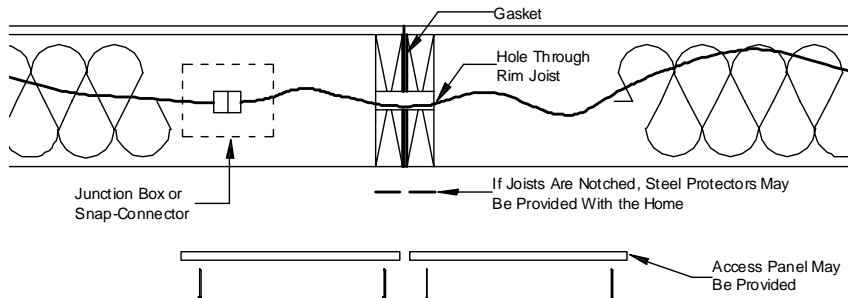

Figure 58. Electrical crossover floor wires with flush access panels
- Access wires.** Find the crossover location(s) and remove the access panel(s) if attached. If access panel openings are not provided, cut through bottom board to expose the wiring (**Figure 58**).